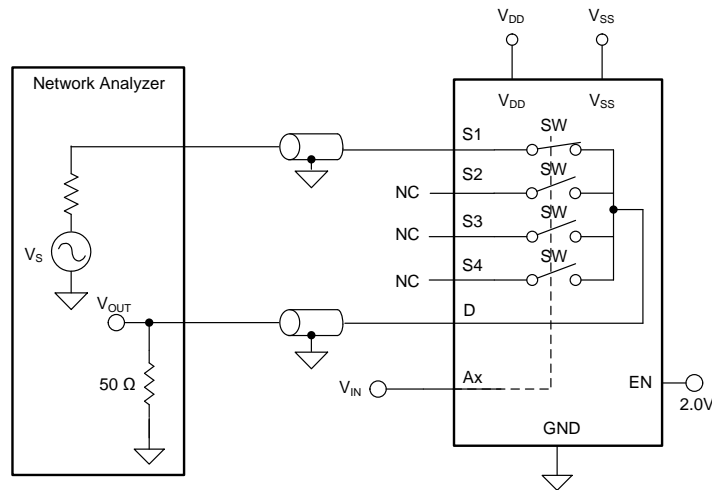

Figure 26. Bandwidth Measurement Setup
Bandwidth is defined as the range of frequencies that are attenuated by < 3 dB when the input is applied to the source pin (Sx) of an on-channel, and the output is measured at the drain pin (D) of the TMUX6104. Figure 26 shows the setup used to measure bandwidth of the mux. Use Equation 4 to compute the attenuation.